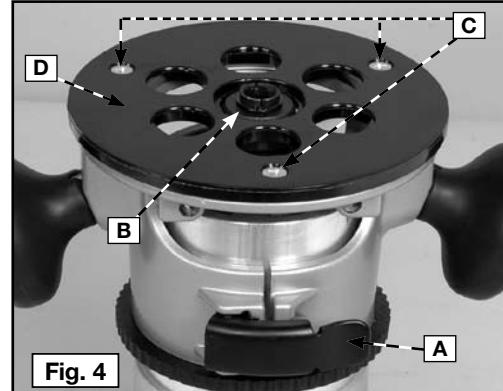
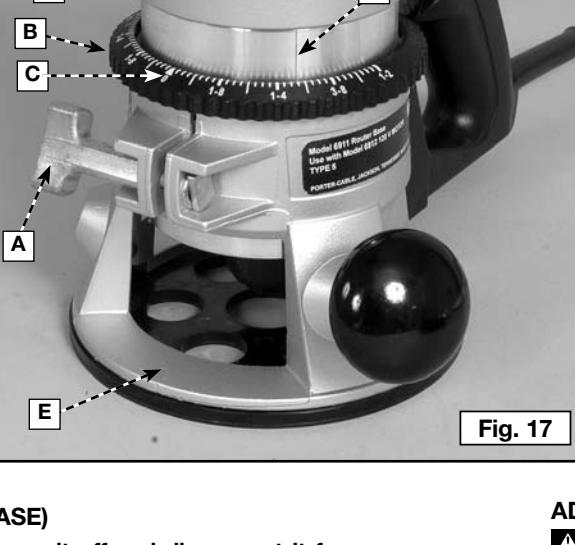

Fig. 4
Fig. 17
1. Loosen the sub-base mounting screws (C) Fig. 4 just enough to allow the sub-base (D) to move.
2. Open the clamp (A) Fig. 4 (or screw (A) Fig. 17) and adjust the power unit so that the collet nut (B) Fig. 4 engages the center hole in the sub-base (D). Allow the sub-base to center itself on the collet nut. Close the clamp.
3. Tighten the sub-base mounting screws (C) Fig. 4 securely.
- Loosen the clamp screw (A) Fig. 17.
- Hold the base (E) and turn the motor unit (F) Fig. 17 counter-clockwise until the tip of the bit is above the bottom of the base.
- Turn the motor unit (F) Fig. 17 clockwise until bit touches the wood surface.
- Tighten the clamp screw (A) Fig. 17.
- Rotate the depth adjusting ring (B) Fig. 17 until the zero-line (C) is opposite the index line (D) on the housing.
- Tip the router so that the bit is clear of the wood surface. Turn the motor unit (F) Fig. 17 clockwise until the index line (D) on the motor housing reaches the desired depth indicated on the ring.
- Tighten the clamp screw (A) Fig. 17 firmly.